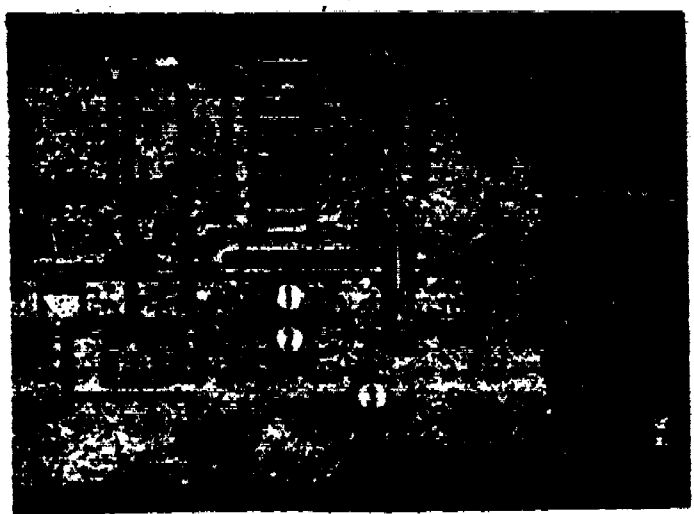

Figure 138. Movable Contact Vibrating Against Upper Contact.
At this time the regulator points will vibrate. This action of the points will reduce current flow to the field windings (rotor coil) varying the strength of the magnetic field as necessary to keep voltage from rising over a specified setting. When the points are closed, maximum current will flow to the field winding; when the points are separated, the current must flow between resistors (1) and (2), figure 138, which reduces the current flow to the field winding and weakens the strength of the magnetic field.